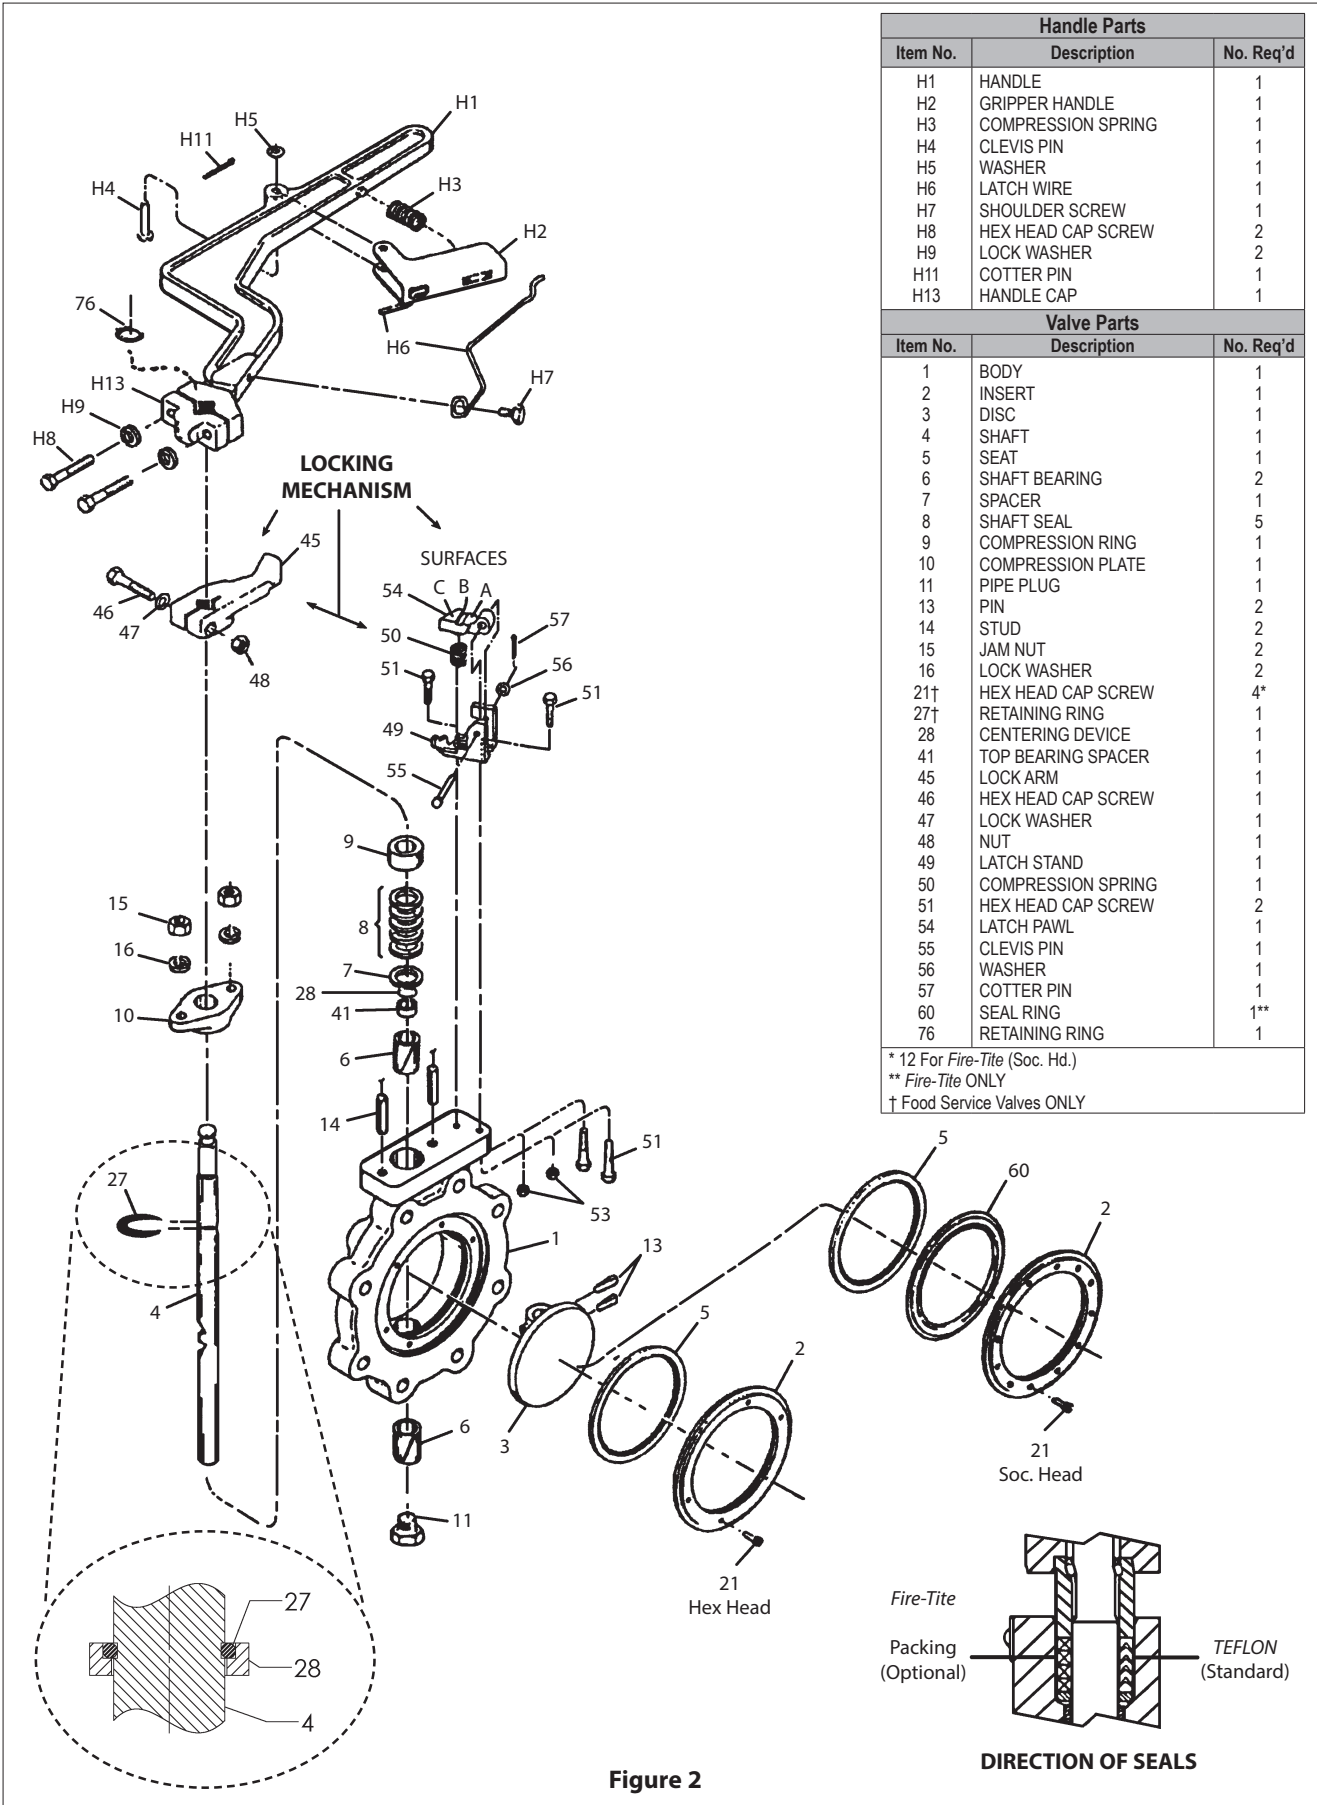

Figure 2
Numbers in () refer to items shown in Figures 2, 3, 4, & 5.
2. Remove the insert screws (21) and the insert (2), (See **Figure 2**). If the insert does not lift out easily, tap it out from the shaft side using a wooden or plastic rod and a hammer. Don't strike the valve directly with the hammer.
3. Remove the metal sealing ring (60) in type WSRF *Fire-Tite* valves only. Remove the soft seat (5) and discard it. If the valve is *Fire-Tite*, carefully clean the sealing ring. Polish the I.D. It should be free of all grooves and scratches. If deep scratches are present, replace the sealing ring.
5. Carefully clean and polish the sealing surface of the disc (3). It should be free of all grooves and scratches. **BE CAREFUL NOT TO DAMAGE COATING ON FOOD DISC.**
8. Verify that the disc is in the level position. Install the new soft seat (5). Install the sealing ring (60) at this time if *Fire-Tite*. (See **Figure 2**)
1. Remove the retaining ring (76).
2. Remove the handle by loosening the cap screws (H8) which hold the handle assembly to the shaft square. Slide the handle off. Also, loosen cap screw (46) and remove the lock arm (45) from the shaft square.
3. Remove the nuts (15) and lockwashers (16) from above the compression plate. Remove the compression plate. The studs (14) do not have to be removed.
4. Remove the compression ring (9).
5. Remove the old shaft packing (8) with a packing tool.
6. The spacer (7) need not be removed for shaft packing replacement.
7. Install new packing (8) (**See Figure 2 for orientation**).
8. Reinstall the compression ring (9), the compression plate (10), the lockwashers (16) and the nuts (15).
10. Tighten the nuts (15) evenly until the packing is adequately compressed to prevent leakage. This should require tightening the nuts approximately 1-1/2 to 2 full turns past the "finger-tight" position.
11. Reinstall the lock arm (45) and handle as described in steps 12 and 13 to follow.